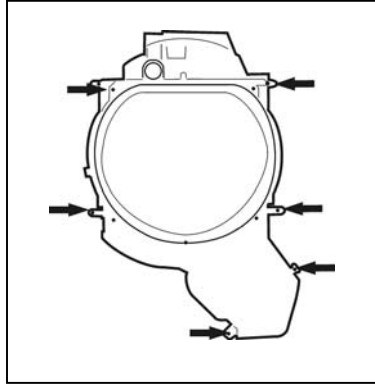

Figure 5-10: Vent Ring Assembly
2. Remove the Vent-Ring Assembly (Figure 5-10) and the Air Duct (on vented models) or Coupler (on Condenser) models.